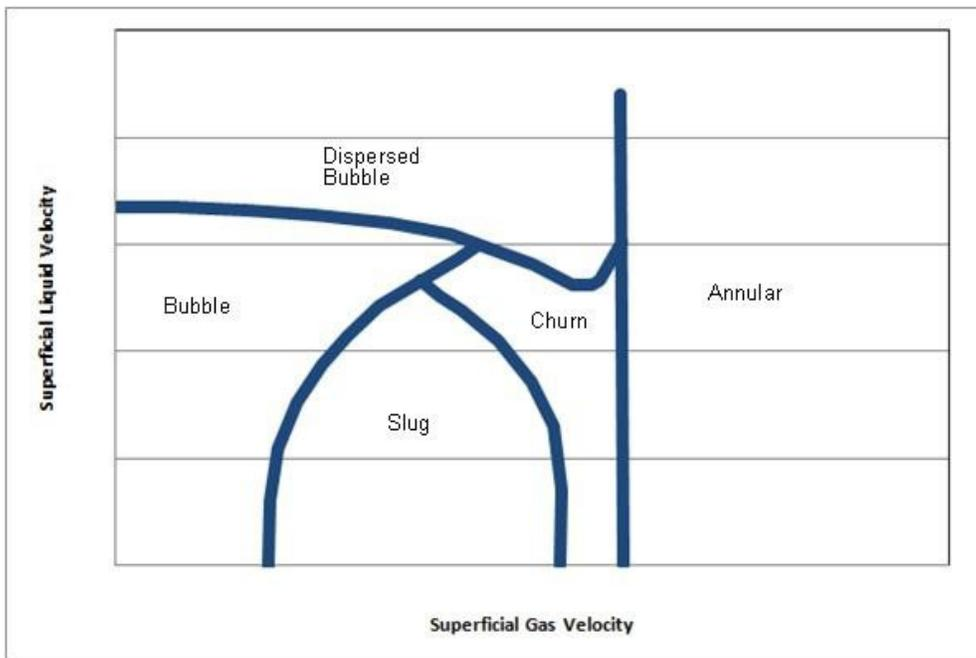

Figure 2. Generic flow regime map²
- The multi-phase flow regime under a given operating window (see Figure 2)